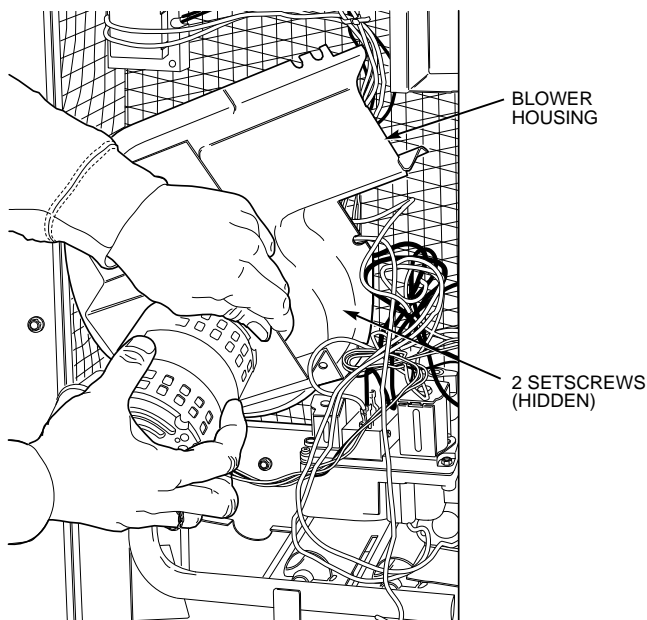

Fig. 36 — Removal of Motor and Blower Wheel
3. Slide the motor and blower wheel assembly out of the blower housing. (See Fig. 36.) Clean the blower wheel. If additional cleaning is required, continue with Steps 4 and 5.
4. To remove blower, remove 2 setscrews. (See Fig. 36.)